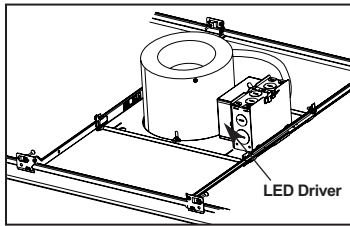
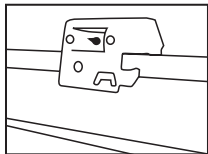

Figure 6
Figure 7
Step 3. Place fixture into position and snap bar hanger foot with integral T-bar notch onto T-bars (Fig. 6). Additional holes provided for securing with wire or screws (Fig. 7).